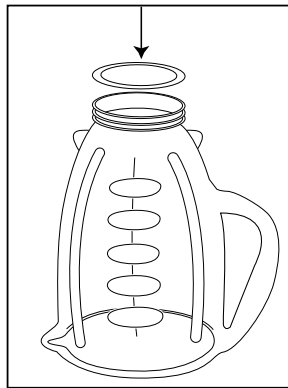

FIGURE 2
3. Place sealing ring over jar opening. (Figure 2)